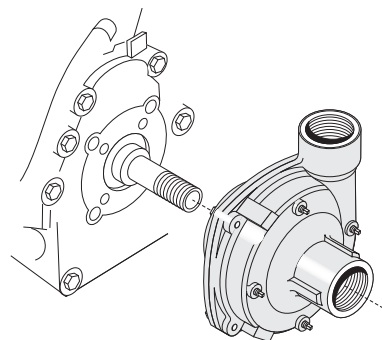

Figure 4
5. Install flange onto the gas engine. Make sure the flange bore fits into the bore on the engine. See Fig. 4.